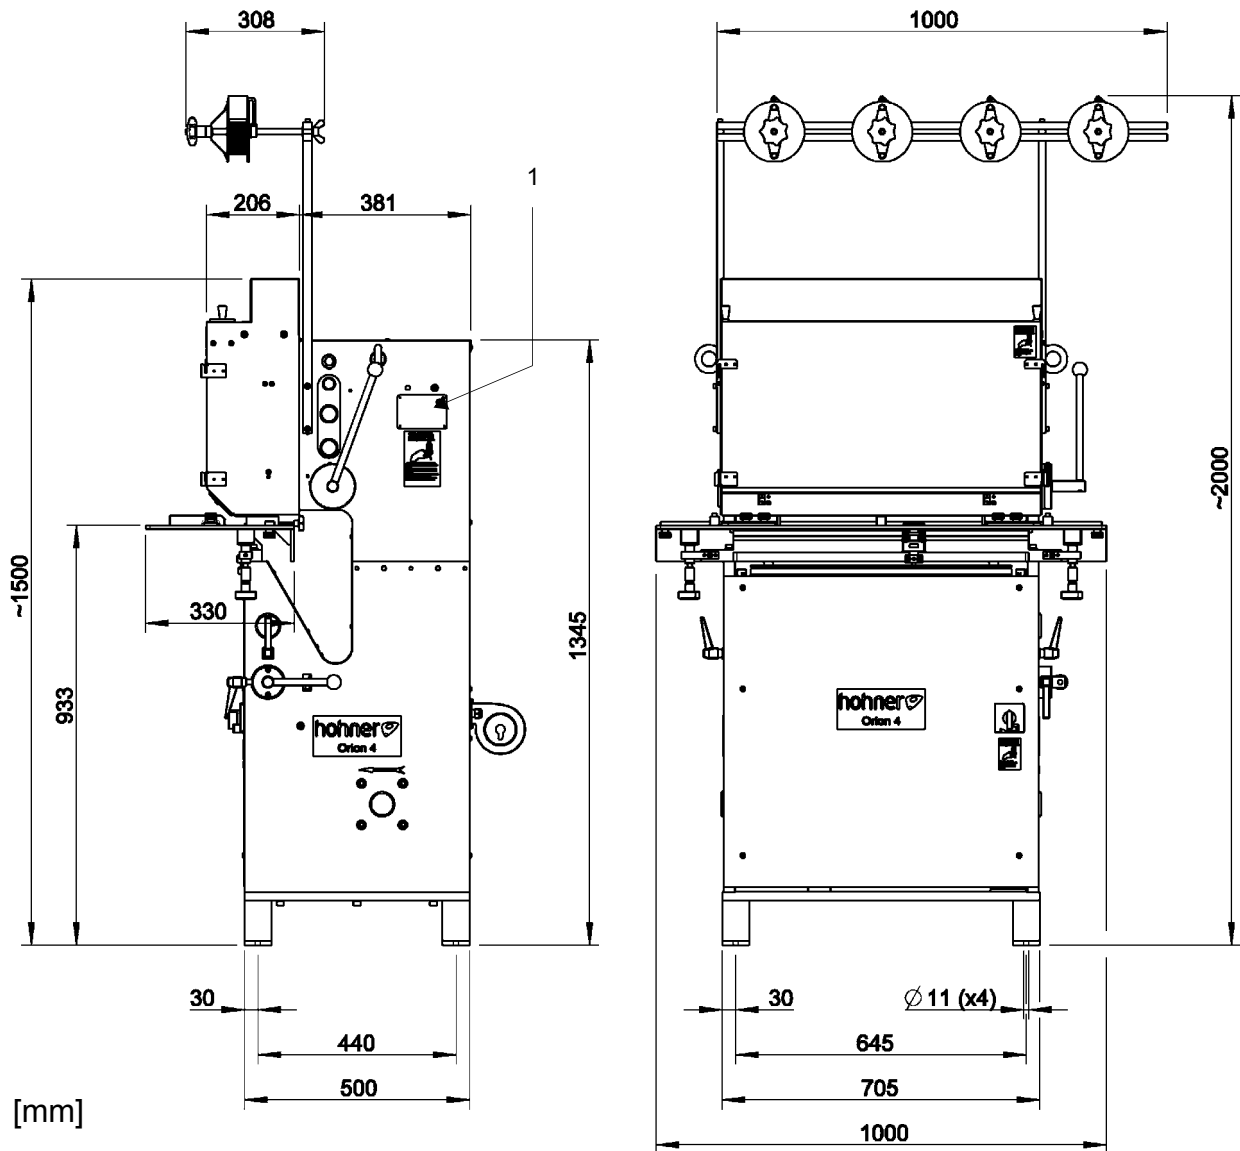

Fig. 2.1
- Fig. 2.1 -
The type plate and the CE labelling are fitted below the main switch - Fig. 2.1 -, Pos. 1.